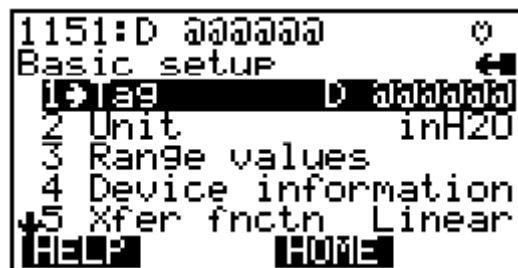

Figure 5 – Basic Setup Menu
- __3. To access “Basic Setup” from the “Device Setup” menu, press the No.3 key. This will bring up the menu displayed in Figure 5.